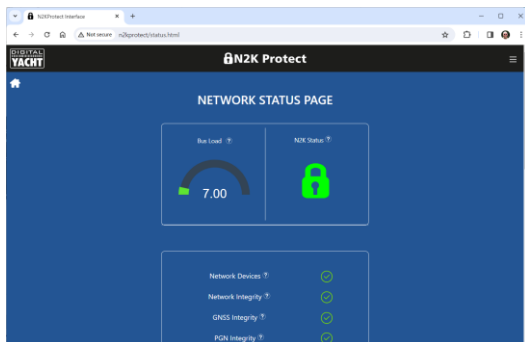

Figure 2
- To display the current status of your NMEA 2000 network, click on the STATUS button on the home page and you will see a page similar to Fig 2.